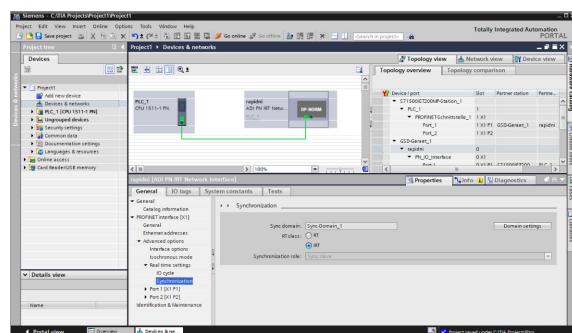

Figure 92. Synchronization Properties Device
6. In the **Properties** window, select **PROFINET interface [X1]**, **Advanced options**, **Real time settings**, and **Synchronization**, then activate the **IRT radio** button (see Figure 92).